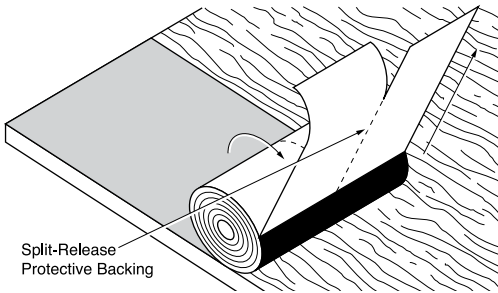

Figure 5-5: Application using the "Roll-Out" method
7. Beginning with the already peeled release film, continue to peel both sections of film from the roll, pulling the roll parallel to the eaves (Figure 5-5). Be sure the DryRoof SA lays flat and is sticking well.